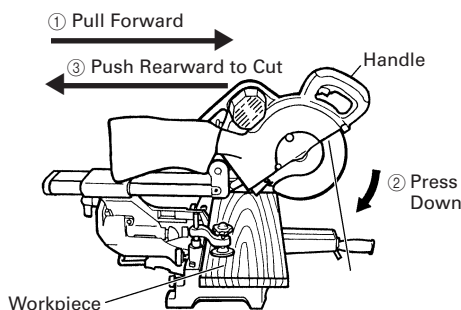

Fig. 30
Loosen the slide securing knob (see Fig. 2), grip the handle and slide the saw blade forward. Then press down on the handle and slide the saw blade back to cut the workpiece as indicated in Fig. 30. This facilitates cutting of workpieces of up to 3-11/32" (85mm) in height and 12-9/32" (312mm) in width.
- * For slide cutting, follow the procedures indicated above in Fig. 30. Forward slide cutting (toward the operator) is very dangerous because the saw blade could kick upward from the workpiece. Therefore, always slide the handle away from the operator.